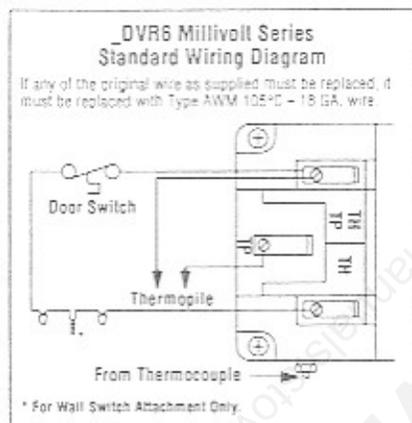
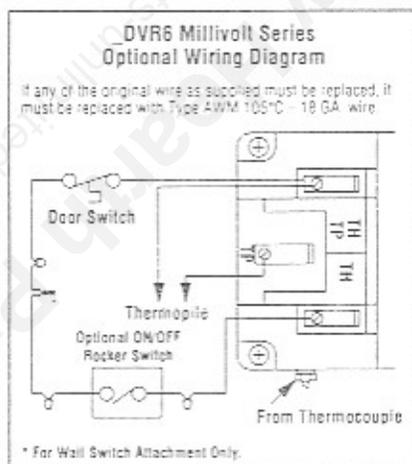

Figure 22
Figure 23
Step 6. Installing the Optional Remote Wall Switch – The standard _DVR6 millivolt system comes from the factory wired as shown in Figure 22. Select a convenient location for the remote wall switch and connect the wiring to the appliance (Figure 23).